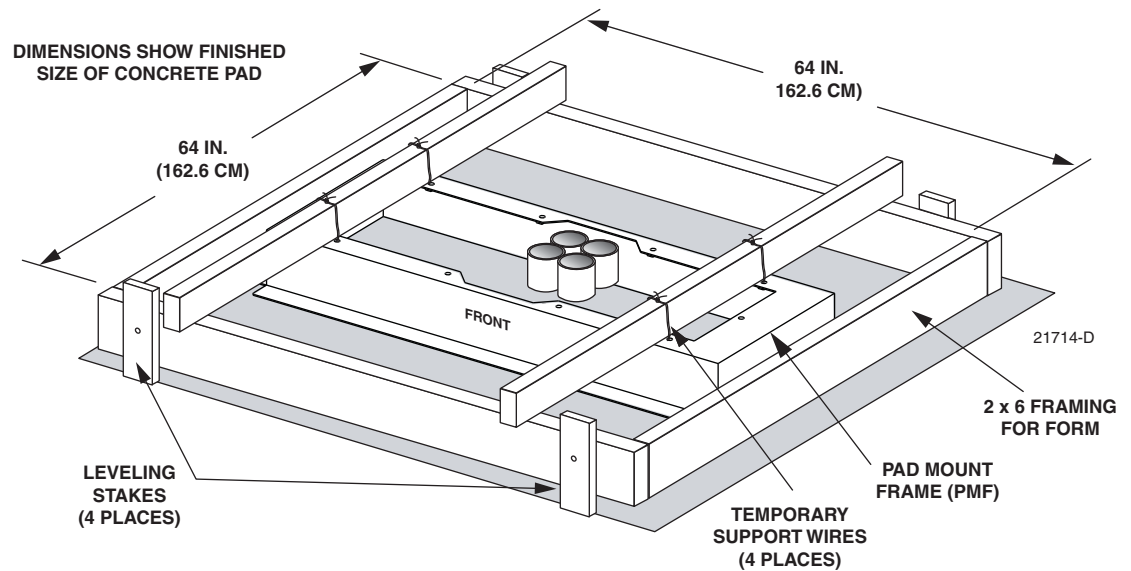

Figure 11. Concrete Pad Framing
1. Build a wood form for the concrete pad using 2 x 6 framing lumber as shown in Figure 11.
- ▶ **Note:** Use temporary top framing to keep the top surface of the PMF flush and level with the top of the concrete pad (see Figure 11).